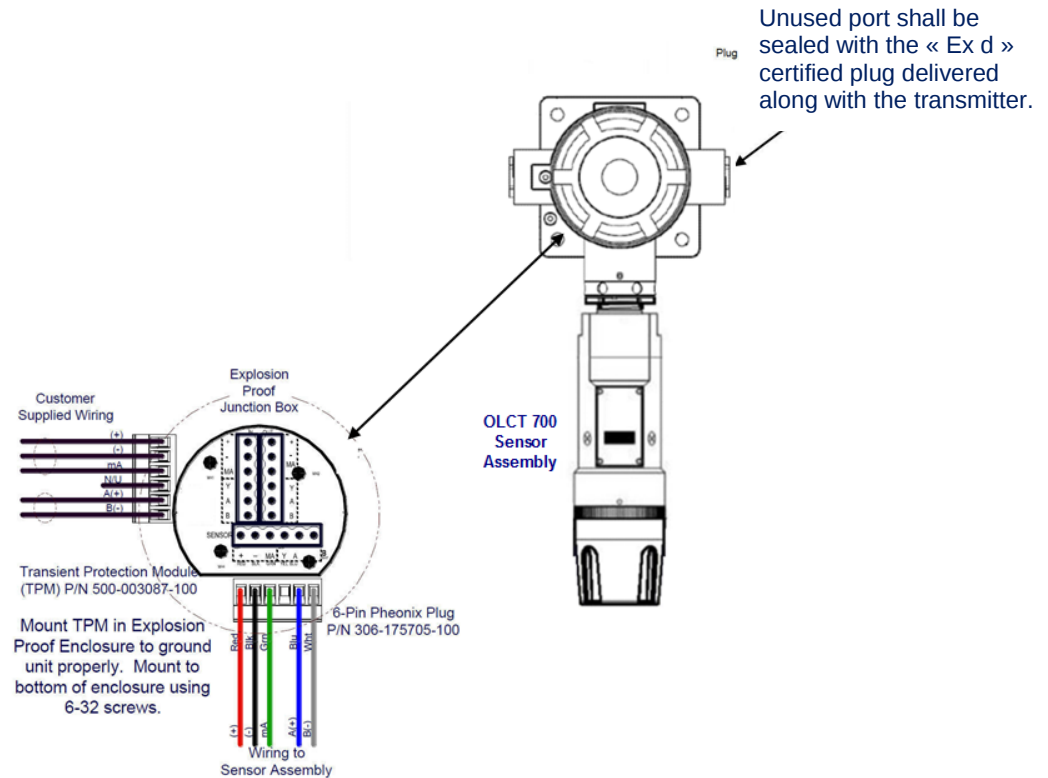
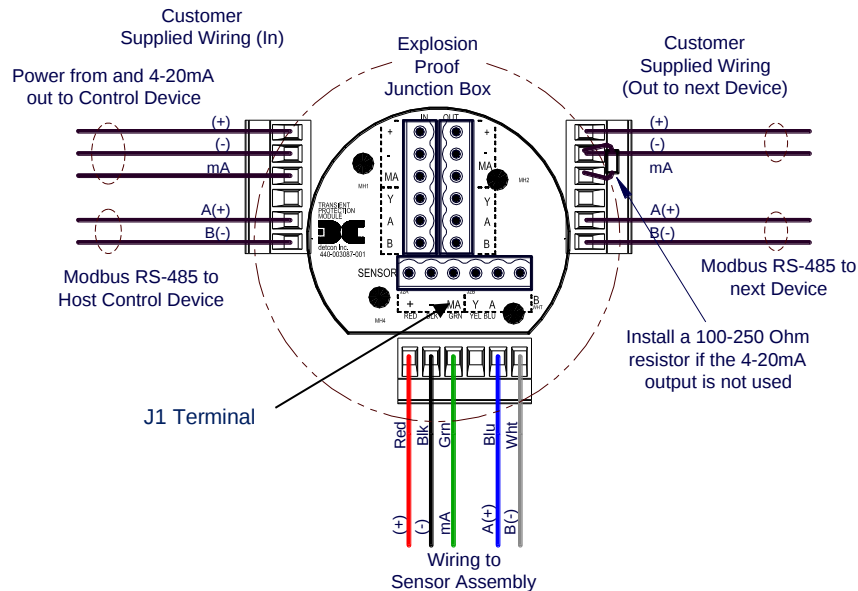

Figure 9: Typical Installation
Figure 10: Detector Wire Connections
Proper electrical installation of the gas detector is critical for conformance to Electrical Codes and to avoid damage due to water leakage. Refer to Figure 9 and Figure 10 for proper electrical installation.
- a) Remove the junction box cover. Identify the terminal blocks for customer wire connections (see Figure 10).
- b) Observing correct polarity, terminate the 3-conductor 4-20mA field wiring (+, -, mA) to the detector assembly wiring in accordance with the detail shown in Figure 10.